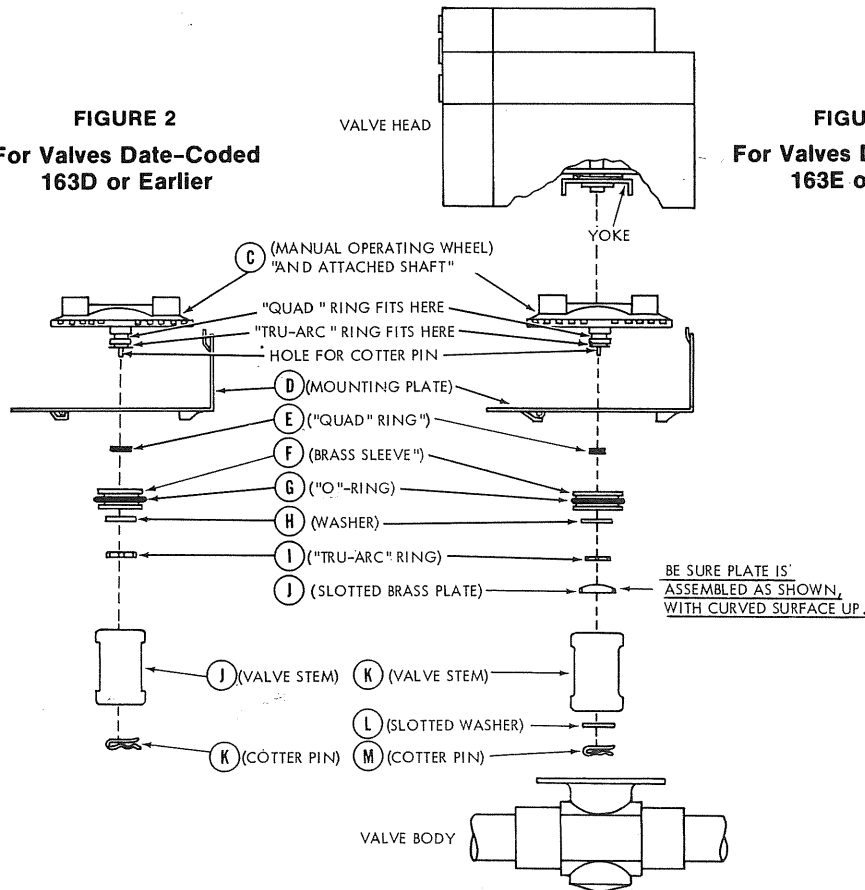

FIGURE 3
1. Pull out cotter pin “M” (See Fig. 3). Then remove parts “L”, “K”, and “J”.
2. Remove “Tru-Arch” ring “I”. With this ring removed, the rest of the parts shown in Fig. 3 may be disassembled.
3. After kit parts have been installed reassemble the valve assembly in the order shown in Fig. 3. (Be sure plate “J” is installed as shown, with its curved surface up.)